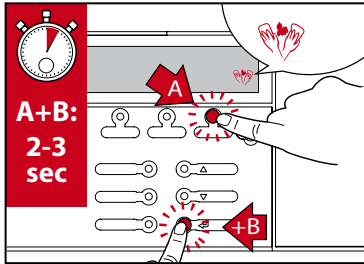

Fig.1
1. Press and hold **STOP (A)** and **ENTER (B)** buttons for 2-3 seconds to enter the cleaning mode (See Fig.1).